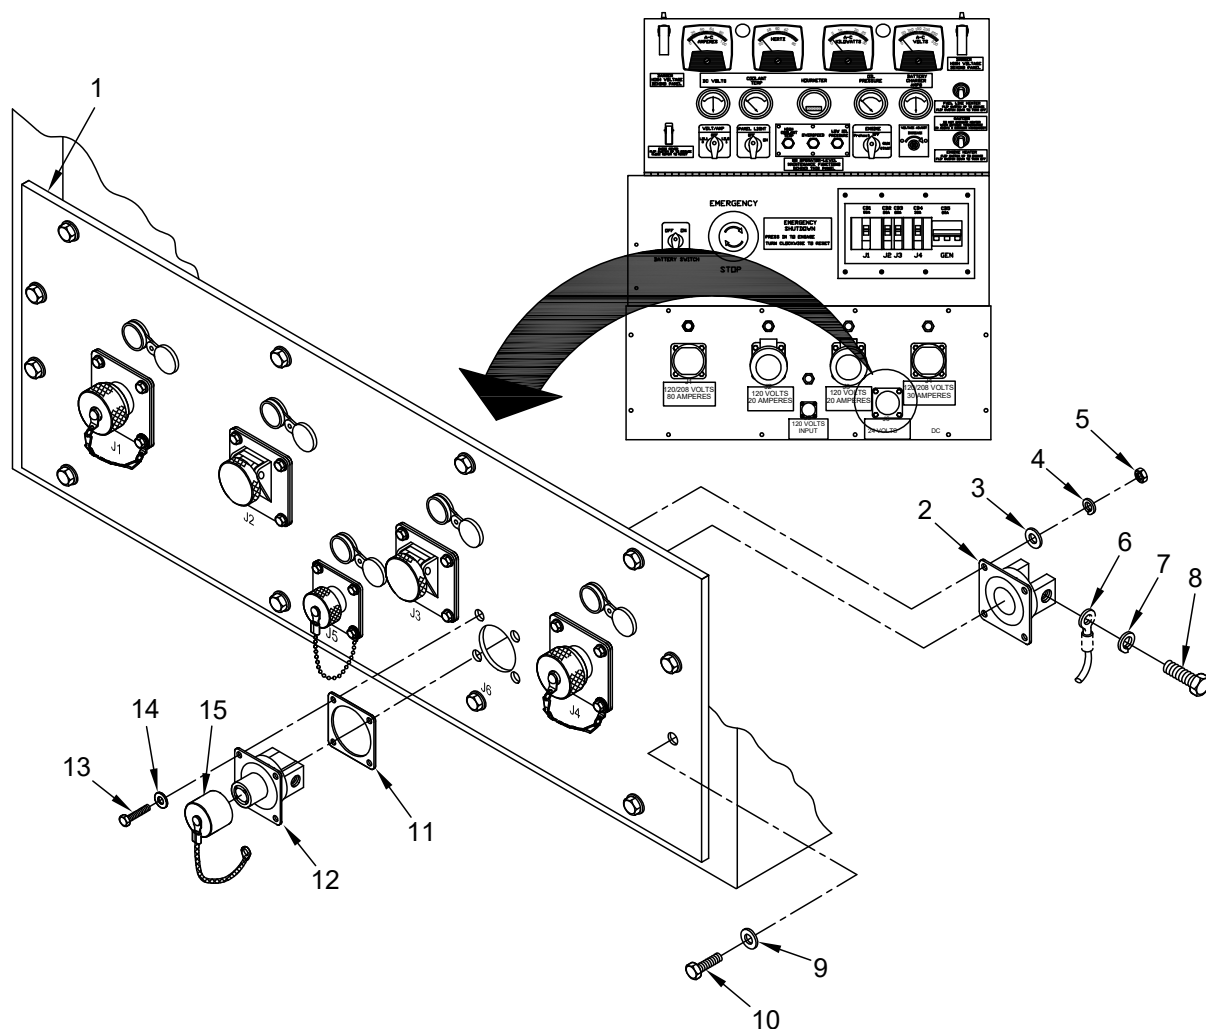

Figure 6. Connector (J6) Removal/Replacement.
4. If necessary, disconnect all cables from power distribution panel (Figure 6, Item 1).
5. Remove and retain 12 bolts (Figure 6, Item 13) and lock washers (Figure 6, Item 12) that secure power distribution panel (Figure 6, Item 1) to Genset.
7. Remove power distribution panel (Figure 6, Item 1) and lay face down.
8. Ensure that two terminals (Figure 6, Item 6) are properly identified. Remove and retain two bolts (Figure 6, Item 8), lock washers (Figure 6, Item 7), and terminals (Figure 6, Item 6) from J6 (Figure 6, Item 2).
9. Remove and retain four bolts (Figure 6, Item 13), flat washers (Figure 6, Item 14), nuts (Figure 6, Item 5), lock washers (Figure 6, Item 4), and flat washers (Figure 6, Item 3) that secure J6 connector (Figure 6, Items 2 and 12) and dust cover (Figure 6, Item 15) to power distribution panel (Figure 6, Item 1).
10. Remove connector (Figure 6, Items 2 and 12) from power distribution panel (Figure 6, Item 1).
1. Inspect wires and terminals (Figure 6, Item 6) for nicks, cuts, burn marks, or other damage. If necessary replace.
2. Inspect connector (Figure 6, Items 2 and 12) for damage or excessive wear and tear, if necessary replace.
3. Install connector (Figure 6, Item 2 and 12) onto power distribution panel (Figure 6, Item 1).
4. Secure connector (Figure 6, Item 12) and dust cover (Figure 6, Item 15) to power distribution panel (Figure 6, Item 1) using four bolts (Figure 6, Item 13), flat washers (Figure 6, Item 14), nuts (Figure 6, Item 5), lock washers (Figure 6, Item 4) and flat washers (Figure 6, Item 3).
5. Connect terminals (Figure 6, Item 6) to connector (Figure 6, Item 2) using two bolts (Figure 6, Item 8) and lock washers (Figure 6, Item 7).
7. Place power distribution panel (Figure 6, Item 1) onto Genset and secure using 12 bolts (Figure 6, Item 10), and washers (Figure 6, Item 9).
8. Connect all cables to power distribution panel (Figure 6, Item 1).